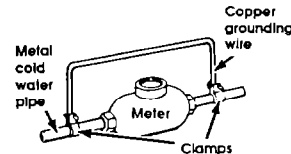

Figure 3
4. Do Not ground to a gas supply pipe or hot water pipe. Do Not connect to electrical supply until appliance is permanently grounded. (See Figure 3.)